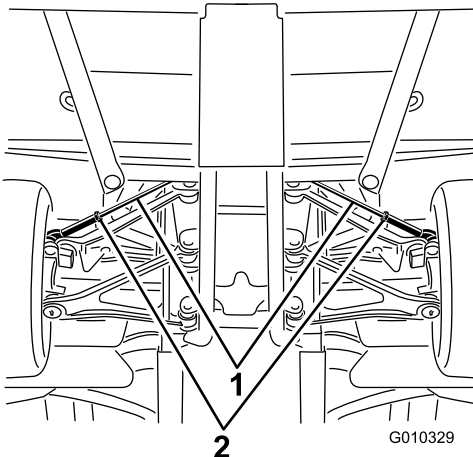

Figure 47
- A. Loosen the jam nut at the center of the tie rod (Figure 47).